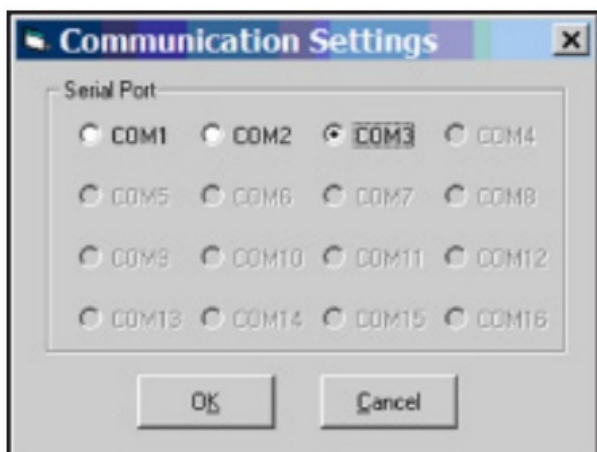

FIGURE 7
2. Select "Settings" and "COM Port Selection." This will open a "Communications Settings" window. Select the COM Port that was set in Installation. See FIGURE 7.